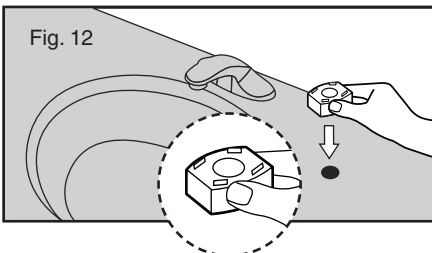

Fig. 12
13. Place the above counter spacer, gasket side down, over the hole in the counter top. Align the spacer so that the flat side faces towards the sink. (see figure 12)